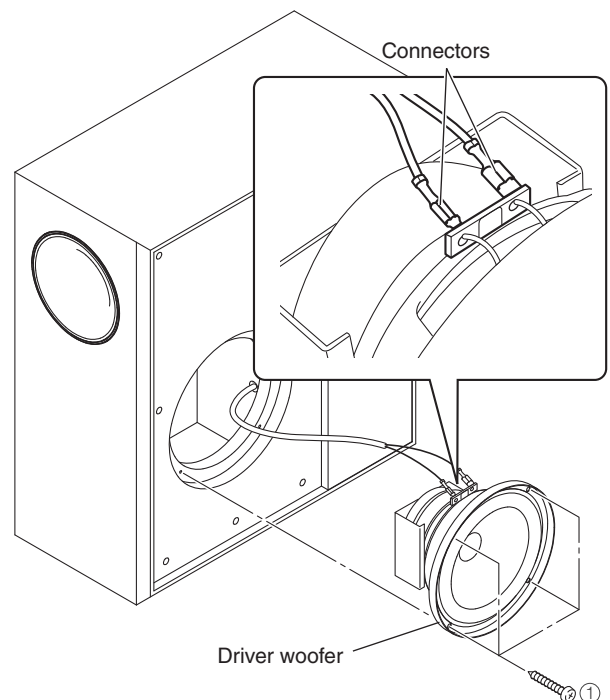

Fig. 2
- Remove 4 screws (①). (Fig. 2)
- Disconnect the connector connected to the terminal of the driver woofer. (Fig. 2)
- Remove the driver woofer. (Fig. 2)